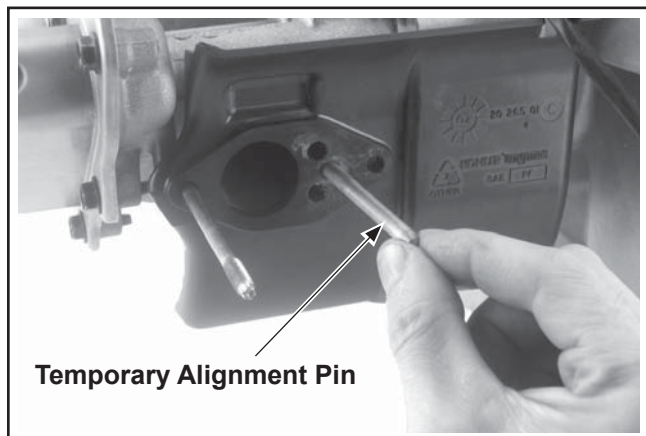

Figure 10-59. Inserting Alignment Pin.
4. **Models with one screw and one mounting stud only:** Insert a 3/16" diameter rod, approximately 4" long, into the open mounting hole in the heat deflector to serve as a temporary alignment pin. See Figure 10-59. Be careful not to force the rod or damage the threads.